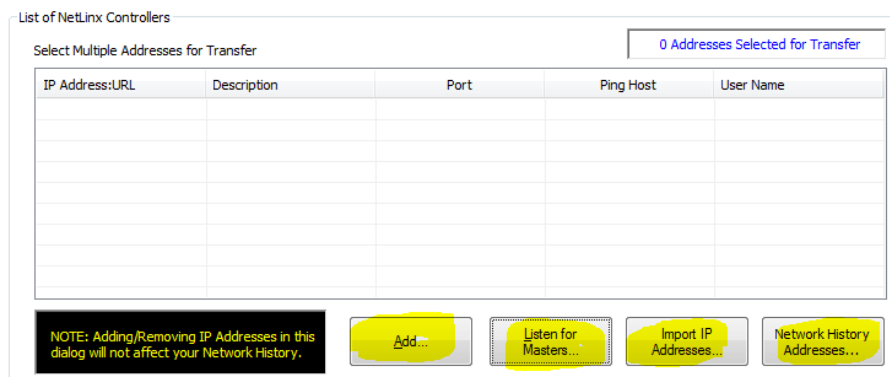

FIG. 479 NetLinx Studio - List of NetLinx Controller
- Add one or more master IPs/URLs from the list stored in NetLinx Studios Master Connection Settings (FIG. 479):